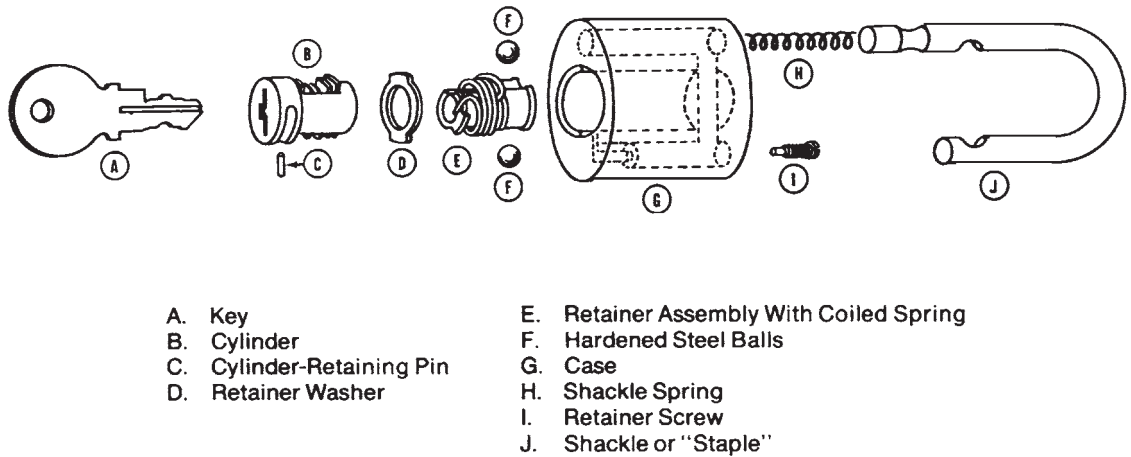

Figure 12.5 A popular American padlock.
2. Remove the retaining screw (I in Fig. 12.5). If the screw is stubborn, use penetrating oil and let it set a few moments before attempting to turn the retaining screw.
3. Strike the side of the lock with a leather mallet. The purpose is to force the *retaining pin* (C) into the space vacated by the retaining screw. Referring to the drawing, note how the pin retains the cylinder in the slot shown.
The locking mechanism. The brass *retainer* is the heart of the assembly (E in Fig. 12.5). Retainers vary in size according to the lock model. A30 and AC20
Shackle. The various models have different shackle lengths and diameters. The spring (H in Fig. 12.5) must match. For example, an L-shaped spring is used on the L50 lock. An extra pin guides the long spring on the K60. The